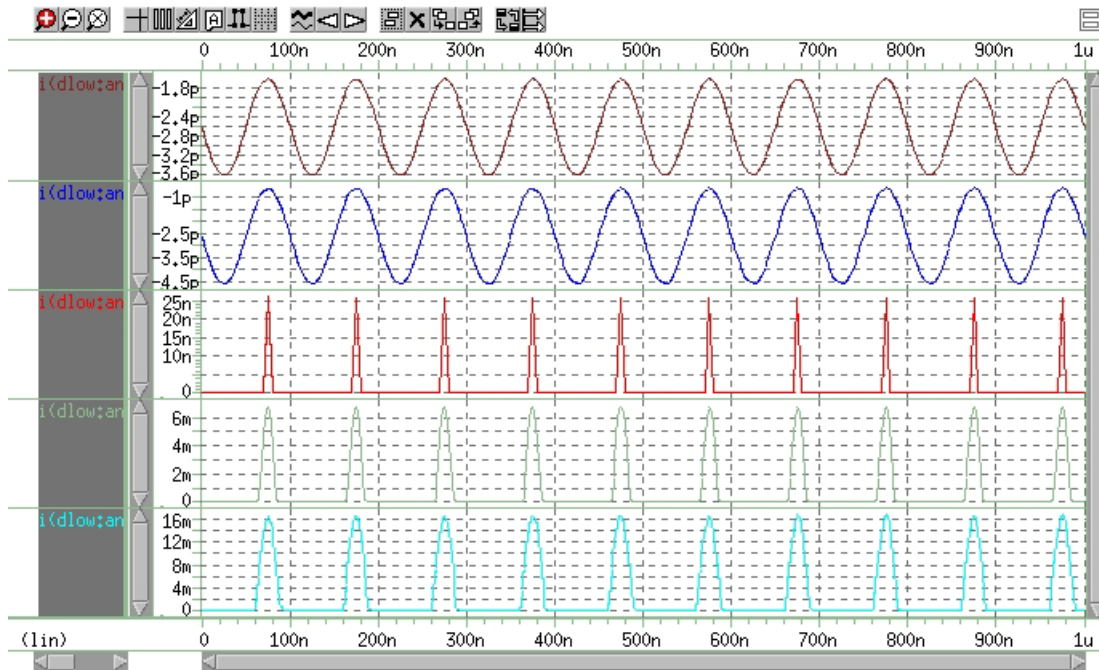

Figure 203 Plot of Current through Diode *dlow* vs. Time
12. Click the ungroup panels icon () on the WaveView panel tool bar to display a plot similar to the one shown in Figure 203 on page 1060.